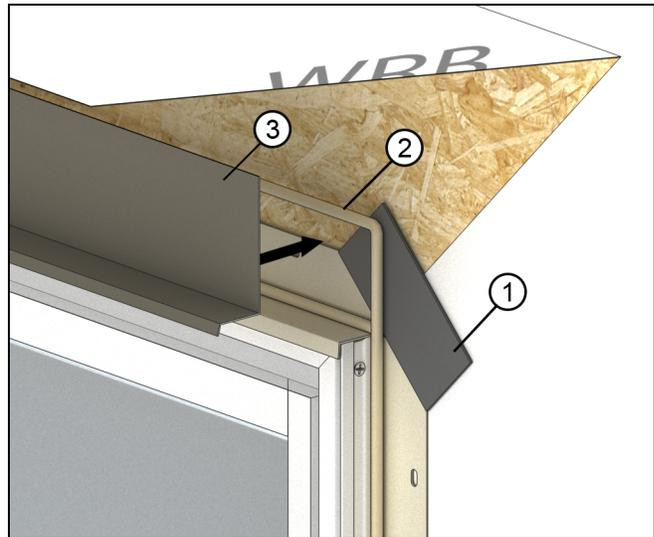

Figure 59
**2. Required on wood units/optional on clad units:** Install a rigid head flash at the head jamb. Be sure to apply a bead of sealant along the back sides of both vertical and horizontal surfaces of the cap that come in contact with the door, door casing, and/or sheathing. When an integral vinyl drip cap is installed, cut the vinyl drip off before using a rigid head flash. See Figure 59.